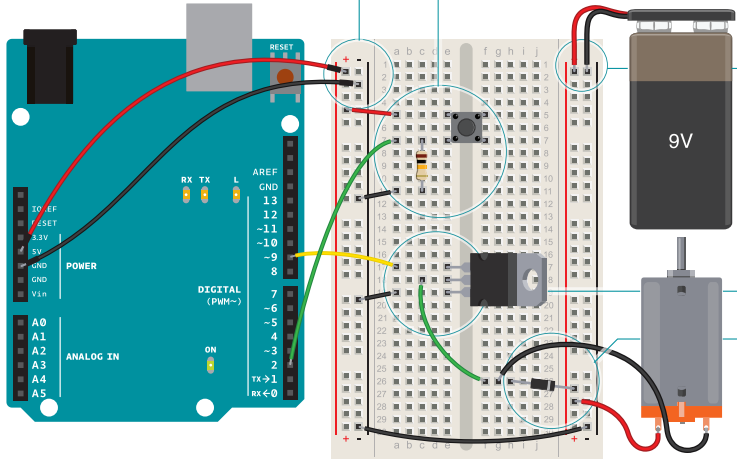

Fig. 1
- 3 When using circuits with different voltages, you have to connect their grounds together to provide a common ground. Plug the 9V battery snap into your breadboard. Connect ground from the battery to ground of your Arduino on the breadboard with a jumper, as shown in Fig. 1. Then attach the motor's free lead to the 9V power.
- 5 Next, connect the motor's voltage supply to the motor and breadboard. The last component to be added is the diode. The diode is a polarized component, it can go only one way in the circuit. Notice that the diode has a stripe on one end. That end is the negative end, or cathode, of the diode. The other end is the positive end, or anode. Connect the anode of the diode to the ground of the motor and the cathode of the diode to the power of the motor. See Fig. 1. This may seem backwards, and in fact, it is. The diode will help prevent any back-voltage generated by the motor from going back into your circuit. Remember, back voltage will flow in the opposite direction of the voltage that you supply.